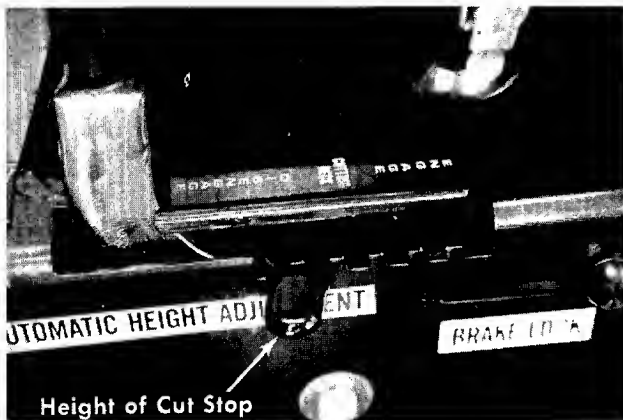

FIGURE 17.
**Height of Cut Stop.** See figure 17. Lift the stop and set it at the desired cutting height.